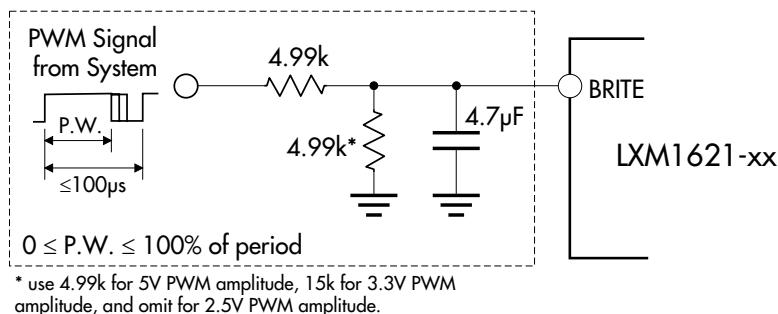

FIGURE 8A — PWM Brightness Control
- The brightness control may be a simple 10k potentiometer or a voltage output DAC. A PWM signal from a micro-controller may also be used with a suitable filter such as shown in Figure 8A.